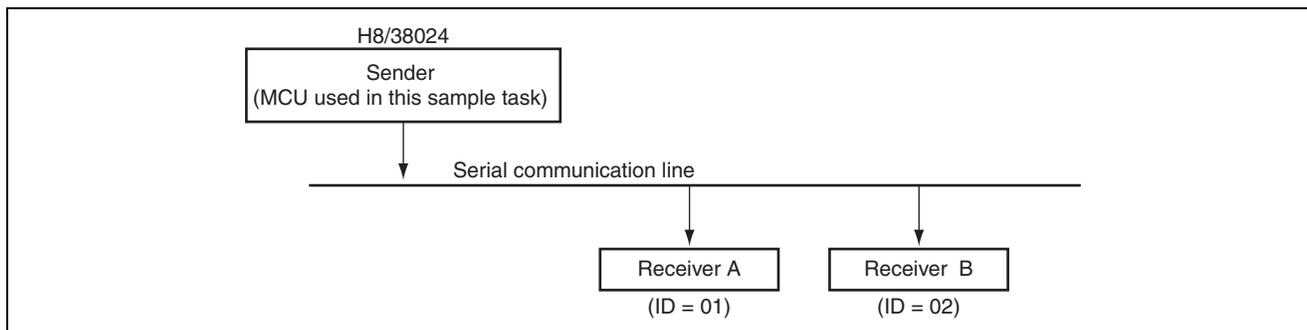

Figure 1.1 Multiprocessor Communication
1. Using the multiprocessor communication function, data H'B8 is transmitted to receiver A and H'DE to receiver B as shown in figure 1.1.